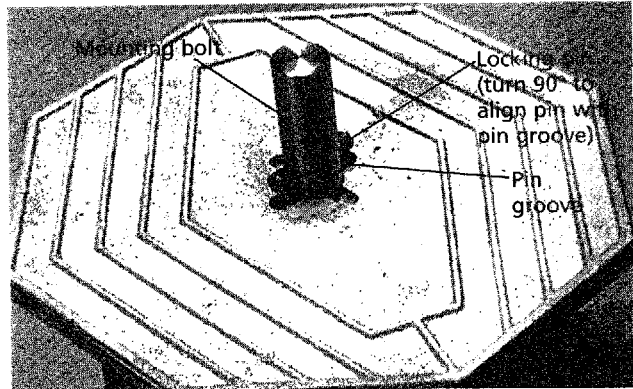

Figure 9. Install the mounting bolt.
- Insert the mounting bolt up through the slot in the bottom of the tripod (see Figure 9). Secure the bolt to the tripod by turning it 90°.